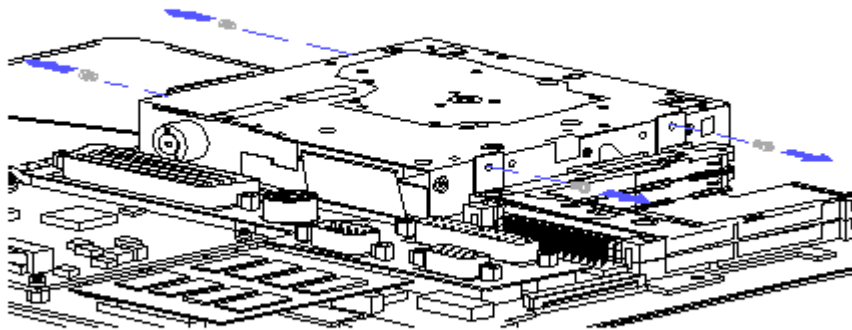

Figure 3-54. Removing the Diskette Drive Mounting Screws
4. Remove the four Torx T-8 slotted screws securing the diskette drive to its mounting brackets (Figure 3-54).